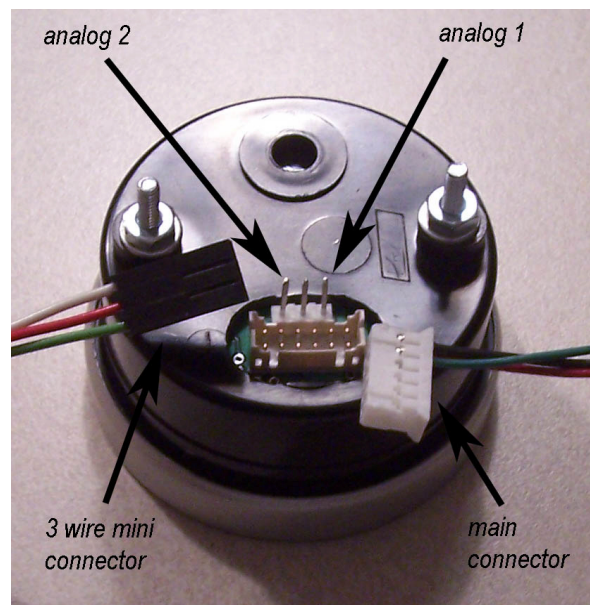

Figure 1
3. **Plug both cables into the back of the *Interceptor*.** See figure 1. Press the *Interceptor(s)* into the gauge pod or mounting hardware.
5. **Connect 3 wire mini connector power. If required***, connect separate **red** power wire, which exits the middle of the 3 wire mini cable as shown in figure 1, to a switched 12v line or circuit in the vehicle. These circuits are commonly known as “accessory” circuits because they are only “hot” when the ignition is turned on. A recommended way of doing this step is to use a product called an “Add a Circuit”, made by Littelfuse, available at most car parts outlets. These kits, which sell for under \$10, allow you to easily use an existing circuit in the fuse block to power an add-on accessory such as the *Interceptor* without the need to cut or splice any wires. The use of this kit is highly recommended, as most of
6. **Connect the 0-5v analog inputs (optional).** You will see 3 pins above the main connector on the back of the gauge as shown in *figure 1*. The 2 outer pins connect to the analog inputs. The center pin is for switched 12v power as described above and may not be required. The right side pin, when looking at the rear of the gauge, goes to analog input 1. The left pin is for analog input 2. See *figure 1*. Included in the gauge packaging is a 3 wire cable that connects here. This connector is not keyed so it will attach either way. Once attached to the gauge, make note of which wire is for analog 1 and 2. You'll need to remember this if and when you connect a signal to these wires. These inputs can be used to read the outputs from pressure senders, A/F ratio analog outputs, 2 or 3 bar MAP sensors, or any voltage up to 5v that you want to monitor and/or record. You can scale these signals with a menu function described below. ***These inputs are rated for 0-5 volts, with an over-voltage protection circuit built in. However, running more than 6v into these inputs for an extended period of time could effect the operation of the entire gauge, and possible damage it.***